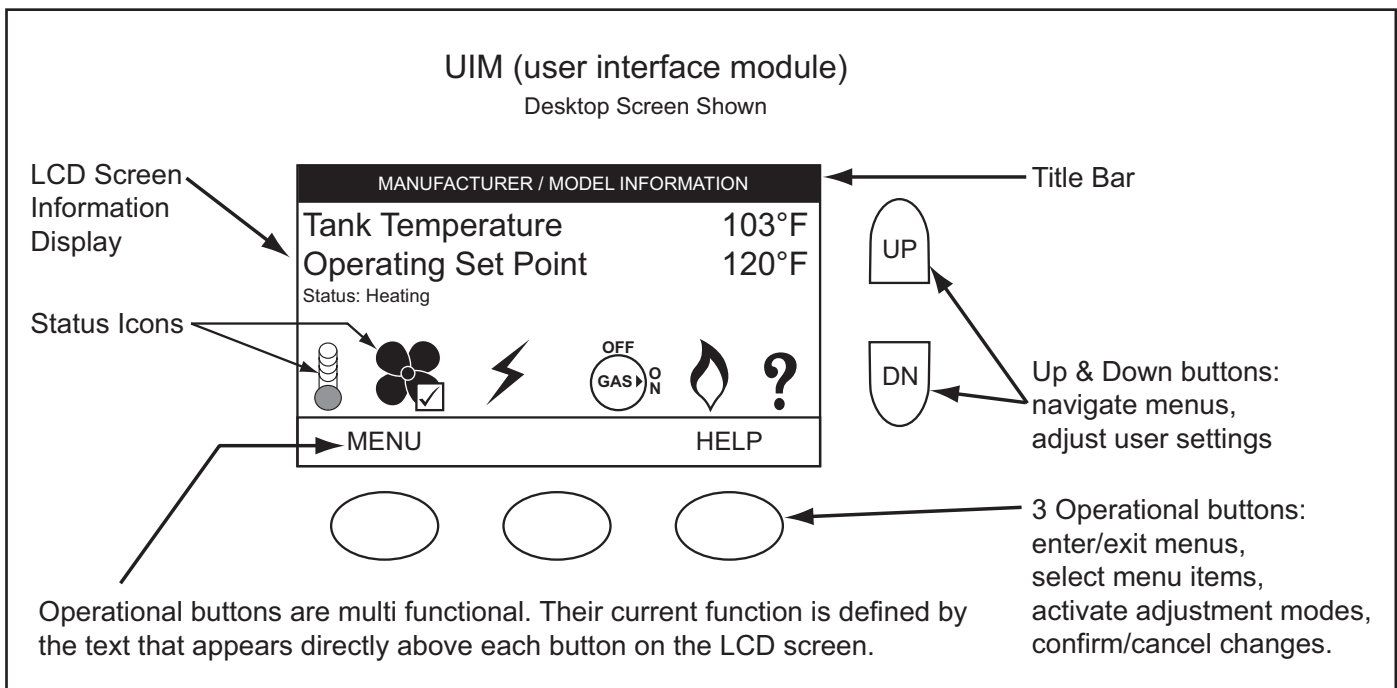

Figure 52
The "Operating Set Point" is adjusted to regulate water temperature inside the storage tank. This is an adjustable user setting in the control system's "Temperatures Menu." This and all control system menus are accessed through the UIM (user interface module) located on the front of the water heater, see Figure 52.
All operational information and user settings are displayed and accessed from the UIM. The UIM houses the control system's LCD (liquid crystal display) and five snap acting (momentary) user input buttons; an up, down and three (3) multi functional operational buttons below the LCD, see Figure 52.